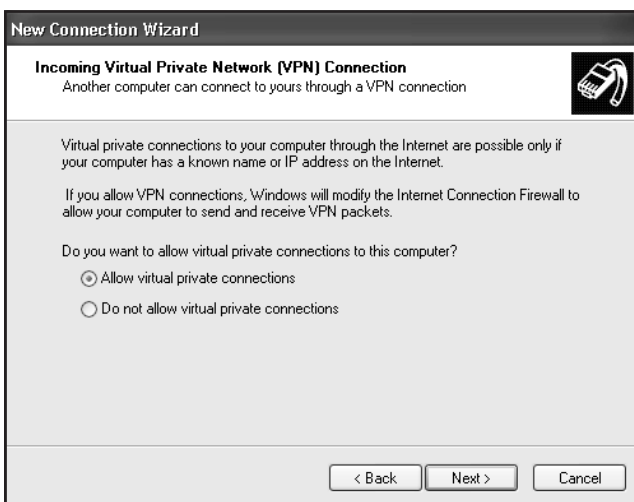

Figure 215 Selecting the VPN Connection
7. Select "Allow Virtual Private Connections" as shown in Figure 215. Click on **Next**.